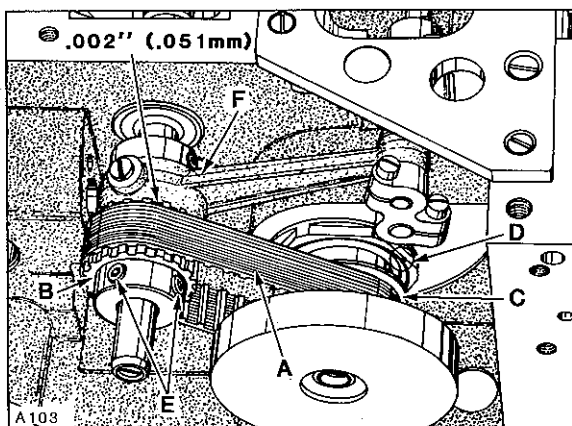

Fig. 4
NOTE: End cover has been removed for clarity in Figure 4, but MUST BE IN POSITION WHILE MAKING THE FOLLOWING ADJUSTMENTS.
Looper drive belt, (A, Fig. 4) has proper tension if, when turning handwheel in operating direction to position looper in the center of its (right to left) travel...there is no noticeable (right to left) play in the looper mechanism. There should be approximately 1/8 inch (3.2mm) deflection in looper drive belt when pressing firmly with thumb, midway between sprockets (B and C). Adjustment can be made by loosening two screws (A, Fig. 5) and turn looper module (D, Fig. 4) counterclockwise to tighten belt or clockwise to loosen, as viewed in Figure 4. Retighten screws (A, Fig. 5).
Rotate handwheel in REVERSE direction until pin in looper holder again makes contact with gauge plate and note the reading on the gauge. A variation of (1) graduation on the scale is permissible. If the reading is above "0", loosen screws (E, Fig. 4) and turn rear looper drive sprocket (B) towards the operator (clockwise as viewed in Figure 4). If the reading is below "0", turn sprocket away from operator (counterclockwise as viewed in Figure 4). Temporarily snug screws.
Rotate handwheel in OPERATING direction until pin in looper holder contacts gauge plate and note the reading on scale. If the reading is above "0", loosen screws (E) and turn sprocket (B) away from operator (counterclockwise as viewed in Figure 4). If the reading is below "0", turn sprocket towards the operator (clockwise as viewed in Figure 4). Temporarily snug screws.
the left side of needle and check the distance from the eye of needle to the bottom of looper blade. If the distance was greater when handwheel was turned in operating direction, (as viewed in sketch B) loosen screws (E, Fig. 4) and turn rear looper drive sprocket (B) away from operator (counterclockwise as viewed in Figure 4).
If the distance was greater when handwheel was turned in reverse direction, (as viewed in sketch C) turn sprocket towards the operator (clockwise as viewed in Figure 4). Temporarily snug screws. Continue to check and adjust in both OPERATING and REVERSE directions until the distance from the eye of
the needle to the bottom of looper blade is the same in either direction (as viewed in sketch D). Before tightening screws (E, Fig. 4) securely, be sure to have .002 inch (.051mm) clearance between sprocket (B) and needle guard drive connecting rod (F).